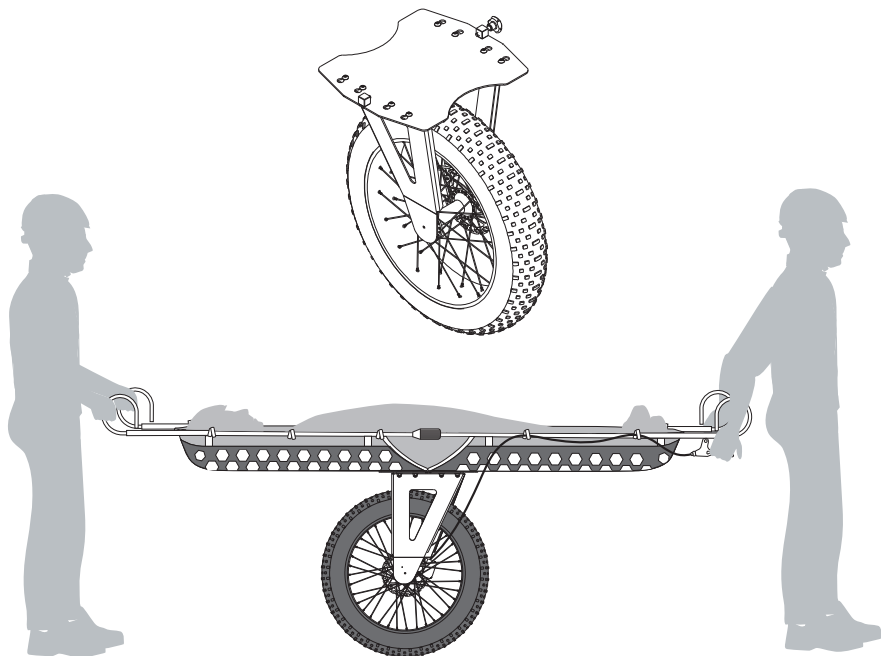

Fig.5
- c) Wheel, to facilitate the transport on flat paths and mule tracks (fig. 5).